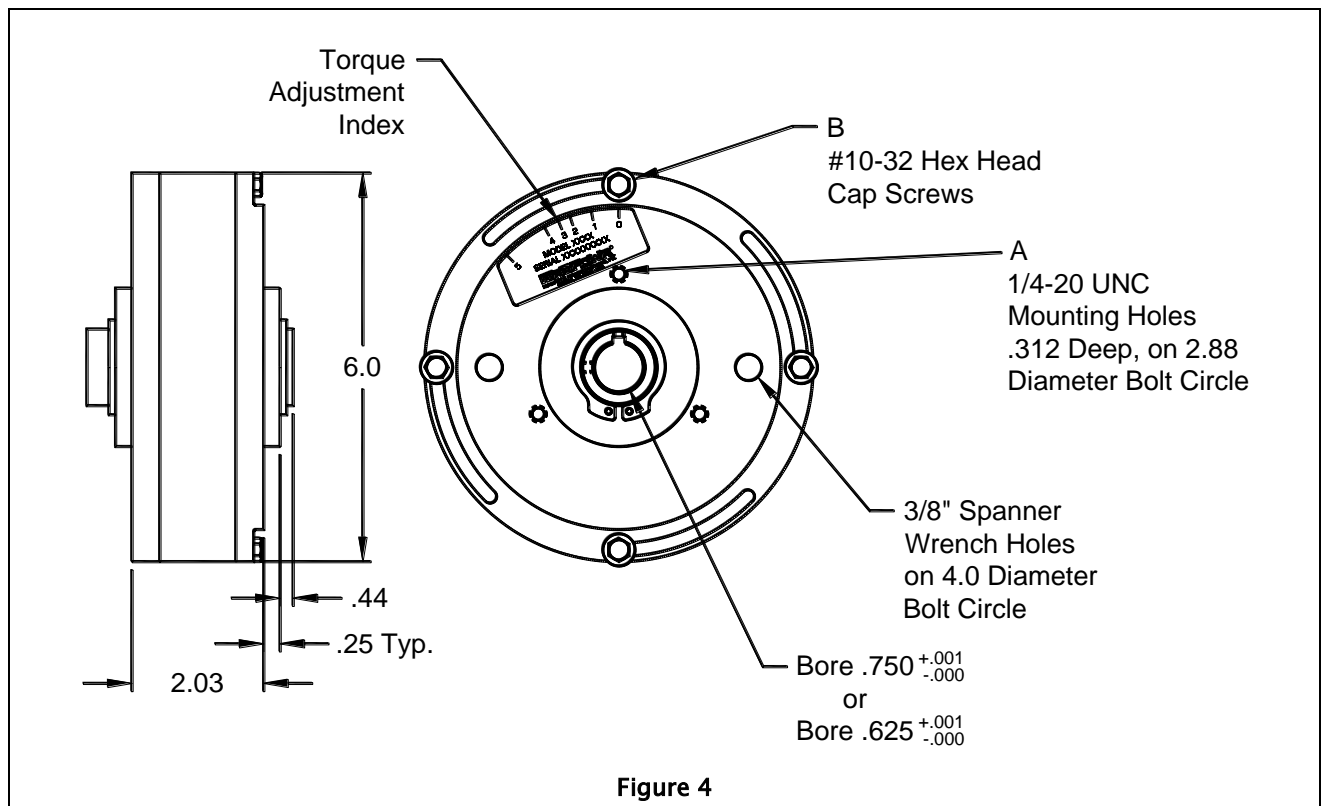

Figure 4
1. Brake units must be securely mounted to a mounting bracket or plate, using three $\frac{1}{4}$ -20 screws and lockwashers (see "A" in Figure 1 and Figure 4).
(See Figure 4.)
2. Loosen by *one turn* the four socket head cap screws "B" located on curved slots (see Figure 4).